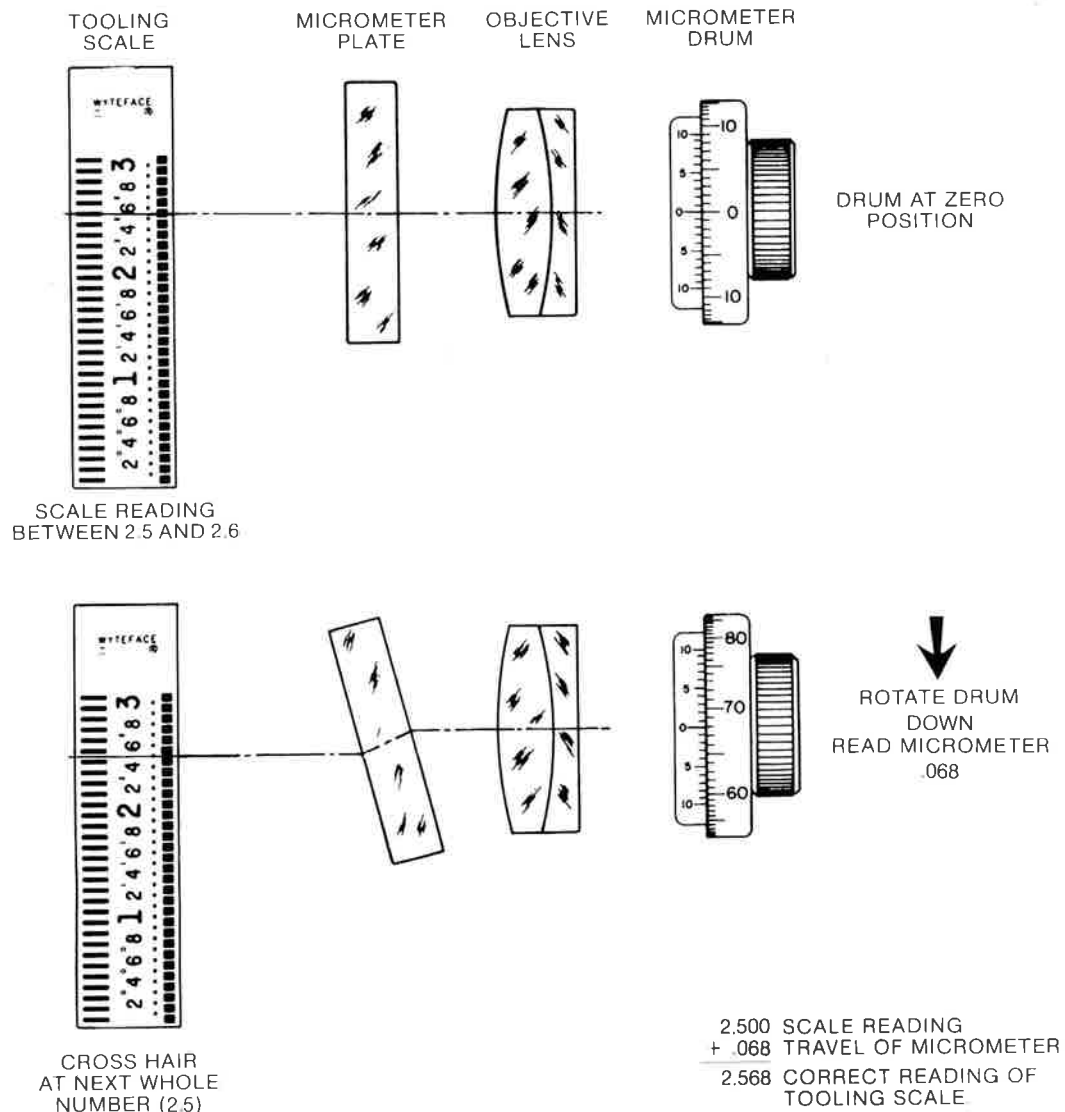

Figure A-2. Example of Optical Micrometer Use
The 71 1111 Optical Micrometer with Vernier Scale can be installed on the objective end of the instrument telescope to enable measurement of horizontal or vertical displacement from the instrument line of sight. Its range is ± 0.100 inch. Displacements can be read directly to 0.001 inch on a uniformly graduated red and black scale. Readings to 0.0001 inch can be made on the vernier scale. The Optical Micrometer operates by displacing the line of sight parallel to itself. (See Figure A-2.)
5. Turn the Optical Micrometer knob so that the line of sight is made to coincide with the next smaller valued 0.100 inch mark on the optical tooling scale. (See Figure A-2.)